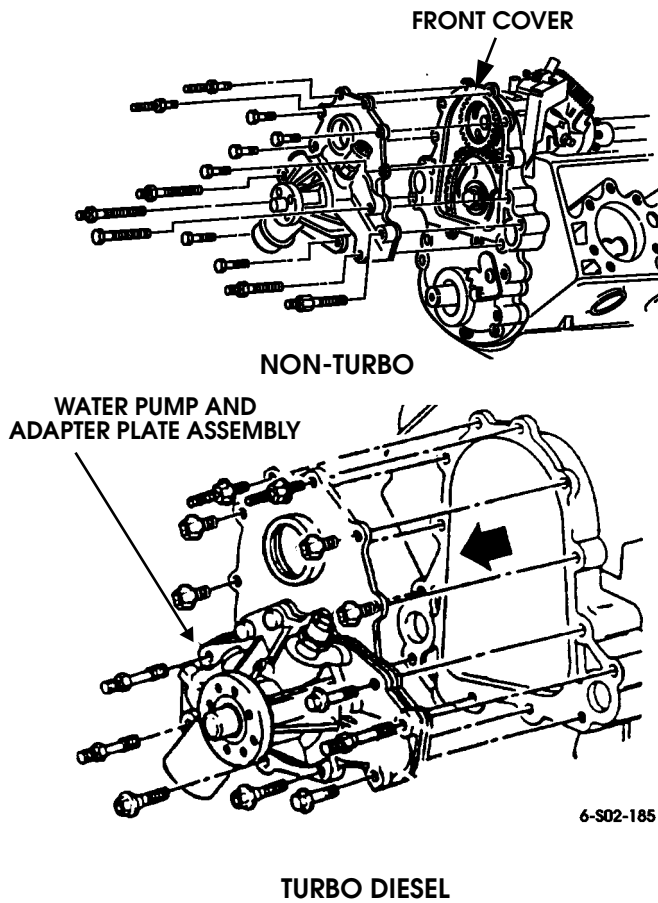

Figure 2-106: Water Pump and Adapter Plate Removal
2. Remove water pump and adapter plate from timing gear cover (Figure 2-106). Note location of attaching studs and bolts for installation reference.